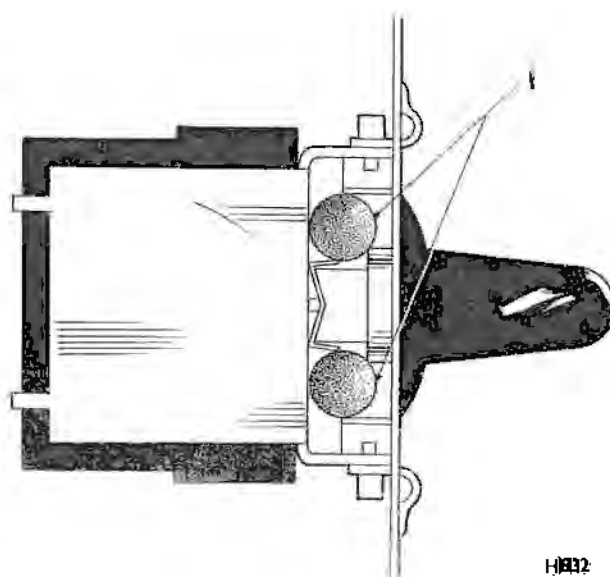

Fig.1 Electric Window Lift Switch fitted
- 13) Fit two lengths of foam rubber strip to the switch between the black plastic knob and the switch mounting bracket as shown in Figure 1. Secure the rubber strip with a suitable adhesive.